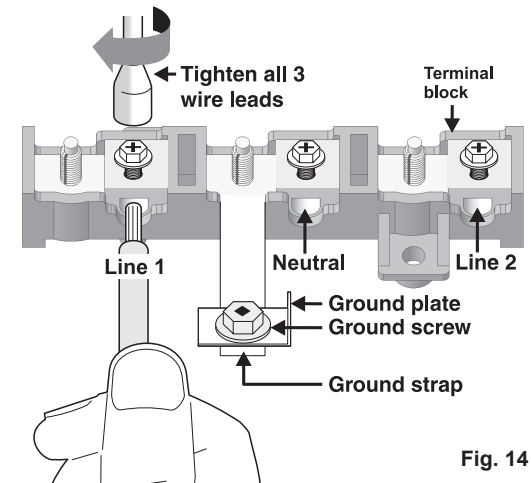

Fig. 14
- (3 & 4 - Wire Permanent Connections)** Strip insulation away from the ends of the permanent wiring for Line 1, Line 2, Neutral (also strip ground wire on 4-Wire Connections). Tighten all 3 wire leads to the terminal block (Follow wire locations shown in Fig. 14).